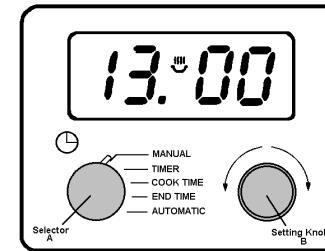

Fig.2
Press buttons (1) and (2) together. The display will read 12:00. See Fig. 2.
Turn and hold selector (A) to clock () . Then turn setting knob (B) until the correct time of day is shown, e.g. 13.00 (1pm). Release both knobs, the display will stop flashing and the cookpot () symbol will glow. Fig. 2. Selector (A) will return to 'Manual'.